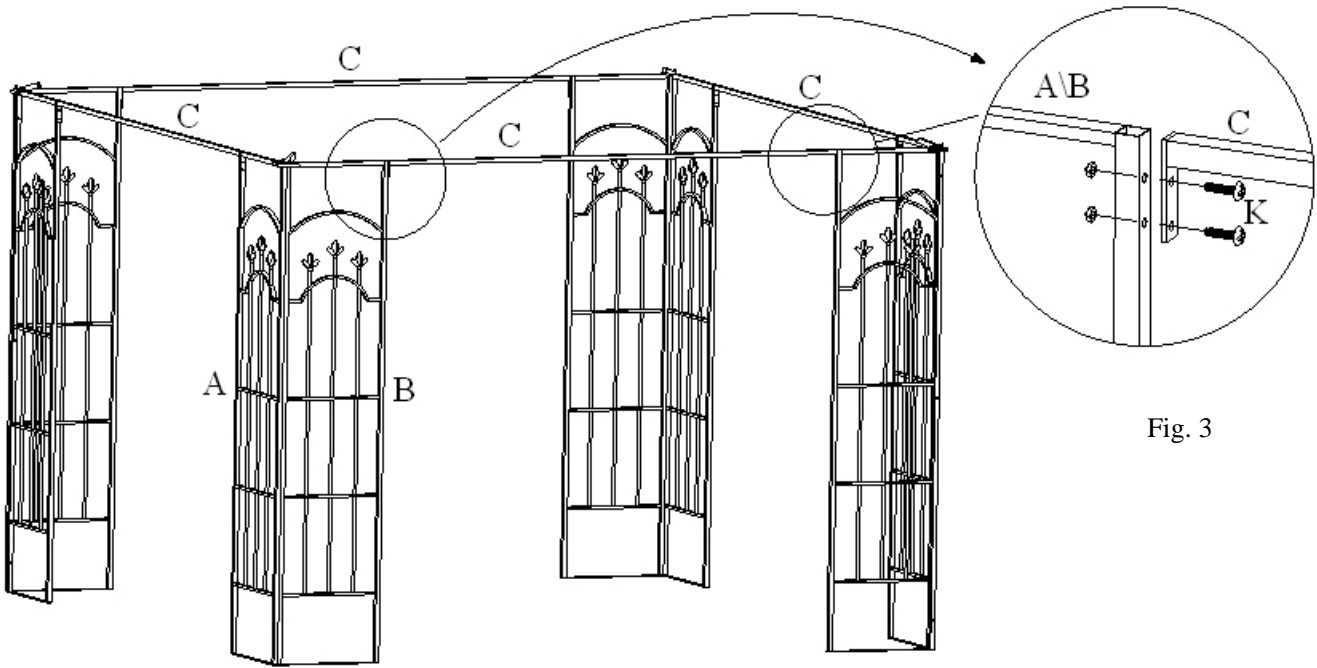

Fig. 3
Step 3: Line up the bolt holes on the two ends of the Beam (C) with the corresponding bolt holes on the side tubes of the Panel (A) and the Panel (B). Screw M6X28 Bolts & Nuts (K) on. Repeat for the remaining Beams (C), Panels (A) and Panels (B) 3 times. See the Figure 3.